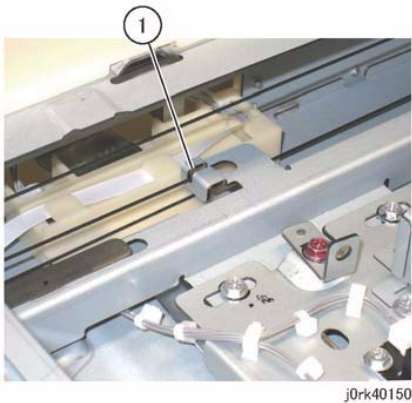

Figure 5 Carriage Cable Ball
8. Remove the Carriage Cable. (Figure 5)